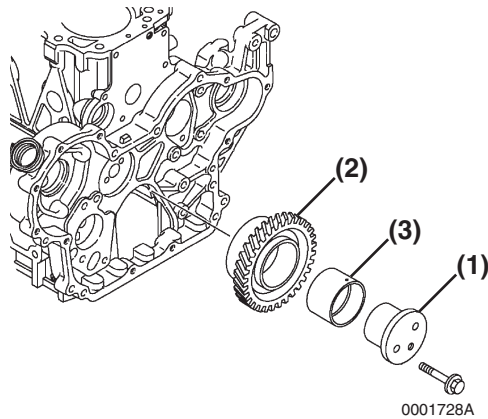

Figure 6-143
3. Lubricate the idler gear (**Figure 6-143, (2)**), bushing (**Figure 6-143, (3)**) and idler gear shaft (**Figure 6-143, (1)**) with clean engine oil.